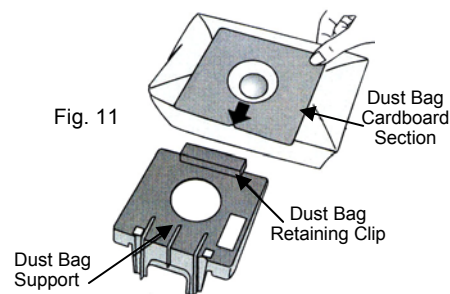

Fig. 11
3. Holding the dust bag retaining clip, insert the rear part of the cardboard section of the dust bag into the plastic support. Once that rear part is in, release the retaining clip to lock the dust bag in place. (Fig. 11)